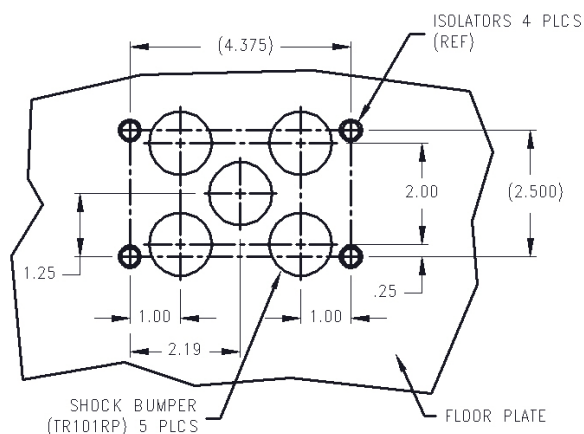

FIGURE 1
Remove adhesive backing from the Shock Bumpers (P/N TR101RP) and locate them on the floor plate approximately at the locations called out below on Figures 1 and 2. Five (5) Shock Bumpers are required per each installation.